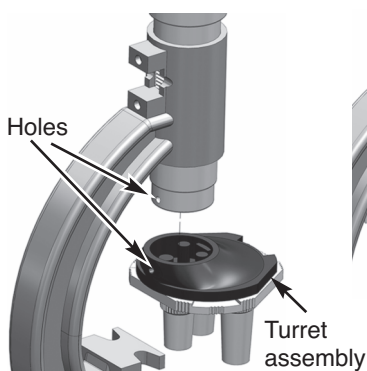

Figure 4
- ❑ Attach the turret assembly onto the body tube as shown in Figure 4 and make sure the holes line up.